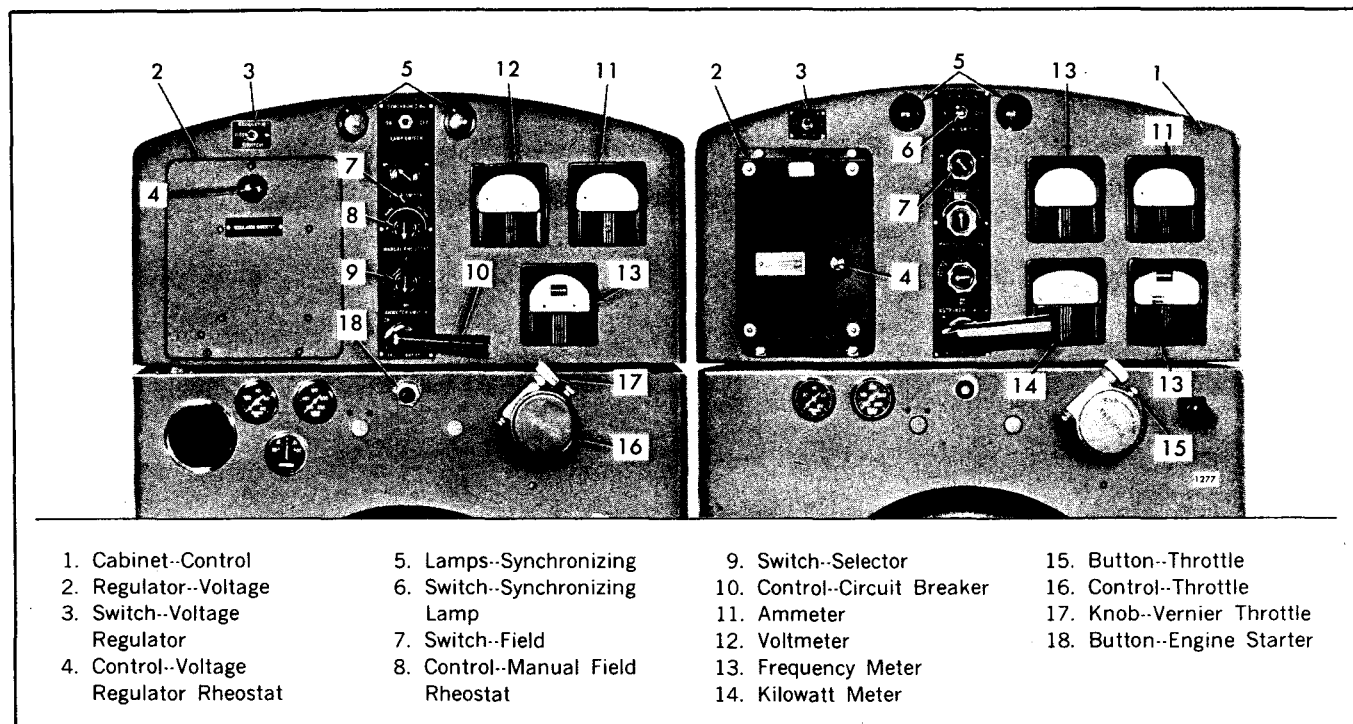

Fig. 1 - Typical Alternating Current Generator Control Cabinets
4. Refer to Fig. 1 and place the circuit breaker (10) in the **off** position.
5. Place the field switch (7) in the **off** position.
6. Place the synchronizing lamp switch (6) in the **off** position.
7. Place the voltage regulator switch (3) in the **off** or **manual** position.
8. Turn the field rheostat knob (8) clockwise to its lower limits.
Press the throttle button (15) and turn the throttle control (16), Fig. 1, counterclockwise to a position midway between **run** and **stop**. Then press the starter button (18) firmly.
1. Bring the engine up to rated speed. Then place the field switch (7), Fig. 1, in the **on** position.
2. Turn the voltage regulator switch (3) **on**.
3. Turn the instrument selector switch (9) to the desired position.
4. Turn the field rheostat (8) slowly in a counterclockwise direction to raise the voltage, while watching the voltmeter, until the rheostat reaches the end of its travel. The voltage regulator will take control of the generator voltage as the field rheostat reaches the end of its travel.
5. If the power generator unit is equipped with a frequency meter, adjust the engine speed with the vernier throttle knob (17) until the desired frequency is indicated on the meter.
6. Adjust the voltage regulator rheostat (4) to obtain the desired voltage.
7. Make sure all power lines are clear of personnel, then place the circuit breaker control (10) in the **on** position.
2. Check the voltmeter (12), Fig. 1; the voltage must be the same as the line voltage. Adjust the voltage regulator rheostat control (4) if the voltages are not the same.
3. Place the synchronizing lamp switch (6), of the generator set to be paralleled, in the **on** position.
4. Turn the vernier throttle knob (17) until both sets are operating at approximately the same frequency, indicated by the slow change in the brilliancy of the synchronizing lamps.
6. The division of the kilowatt load between the alternating current generators operating in parallel depends on the power supplied by the engines to the generators as controlled by the engine governors and is practically independent of the generator excitation. Divide the kilowatt load between the sets by turning the vernier throttle knob (17) counterclockwise on the incoming set and clockwise on the set that has been carrying the load (to keep the frequency of the sets constant) until both kilowatt meters indicate that each set is carrying its proper percentage of the total K.W. load. Refer to Item 8 if the sets are not equipped with kilowatt meters.
9. When the load is 80 per cent power factor lagging (motor and a few lights only), turn the vernier throttle knob (17) on the incoming set until the ammeter on that set reads approximately 40 per cent of the total current load.
10. Rotate the voltage regulator rheostat control (4) on the incoming set (generally counterclockwise to raise the voltage) until the ammeters read the same on both sets.
**NOTE:** If a load was not added during paralleling, the total of the two ammeter readings should be the same as the reading before paralleling. Readjust the voltage regulator rheostat (4) on the incoming set, if necessary.
1. Turn off all the load on the generator when stopping a single engine unit. Shift the load from the generator when taking a set out of parallel operation by turning the vernier throttle knob (17), Fig. 1, until the ammeter (11) reads approximately zero.
2. Place the circuit breaker control (10) in the **off** position.
3. Turn the field rheostat (8) to the fully clockwise position.
4. Turn the voltage regulator switch (3) to the **off** position.
6. Press the throttle button (15) and turn the throttle control (16) to **stop** to shut down the engine.